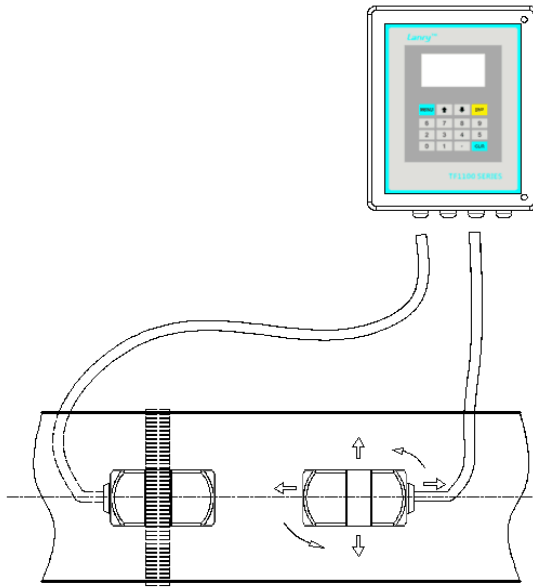

Figure 2.6
6. Place the downstream transducer on the pipe at the calculated transducer spacing. See **Figure 2.6**. Using firm hand pressure, slowly move the transducer both towards and away from the upstream transducer while observing Signal Strength. Clamp the transducer at the position where the highest Signal Strength is observed. Signal Strength of between 60 and 95 percent is acceptable. On certain pipes, a slight twist to the transducer may cause